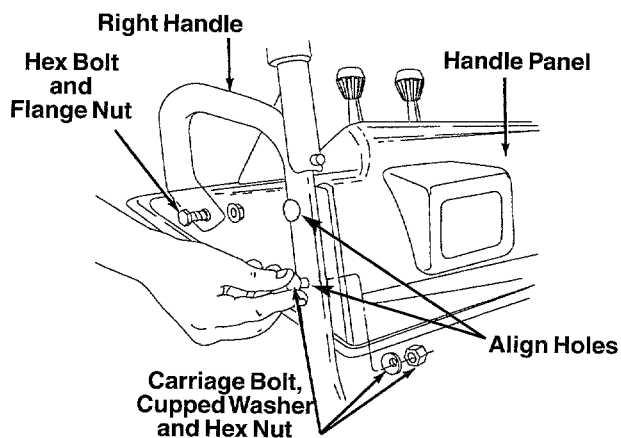

Figure 3
- Place the handle panel in position between the handles so the ends of the curved part of the handles go through the slots in the handle panel. Align the holes in the handle with the holes on the two sides of the handle panel. See Figure 3.
- Attach the handle panel to the handle with two carriage bolts, cupped washers (cupped side against the handle panel) and hex nuts on each side. See Figure 3. You will find these fasteners in the hardware pack (group B on page 6). Align
- Attach each side of rear of handle panel with one 1/4-20 hex bolt and flange nut from the hardware pack (group C on page 6). See Figure 3. Do not tighten at this time.